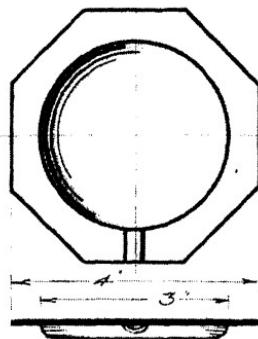
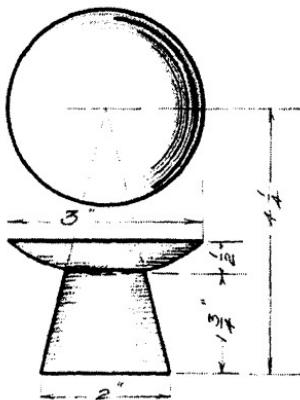

FIG. 1
FIG. 3
The ash trays shown on the opposite page are all simple in design and easy to make. Figures 1, 2, 5, and 6 are made like a plate with a sunken center. The outside shape can be cut with a jeweler's saw. The bowl on Figs. 3 and 4 is hollowed with a ball-peen hammer and the base may be stretched from a piece of tubing.
### **Procedure to Be Followed in Making (Figs. 1, 2, 5, and 6)**
11. Solder the handles and the square wire to the tray, using 50-50 wire solder (Fig. 3).